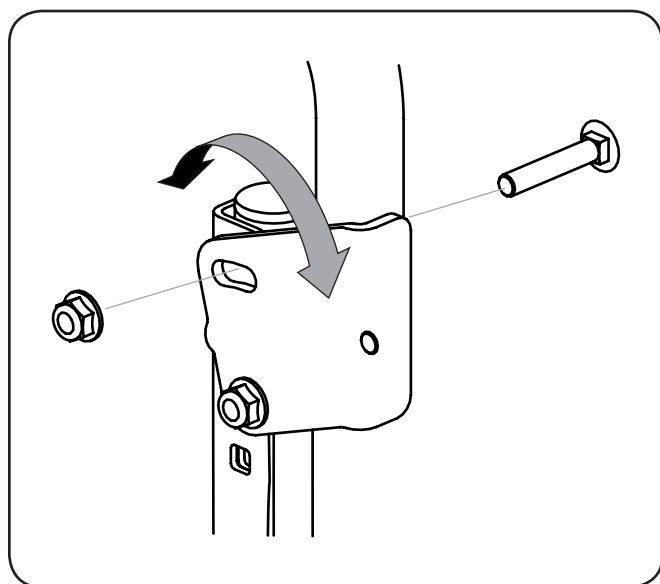

Figure 3-9
2. Lift and swing that control lever upward until the slotted hole in the lever bracket aligns with one of the holes in the pivot bracket. See Figure 3-9.
3. From the inside insert the carriage bolt through the control lever slot and the hole of the pivot bracket. Secure with the flange lock nut. See Figure 3-9.